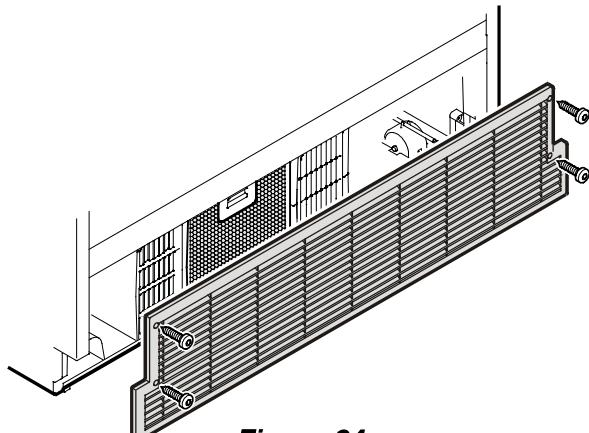

Figure 24
- Open the bottom freezer drawer and unscrew the ventilation grille - **Figure 24.**